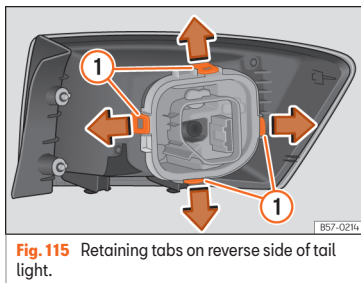

Fig. 115 Retaining tabs on reverse side of tail light.
7. Disassemble the bulb holder unlocking the securing tabs »» Fig. 115 ①.